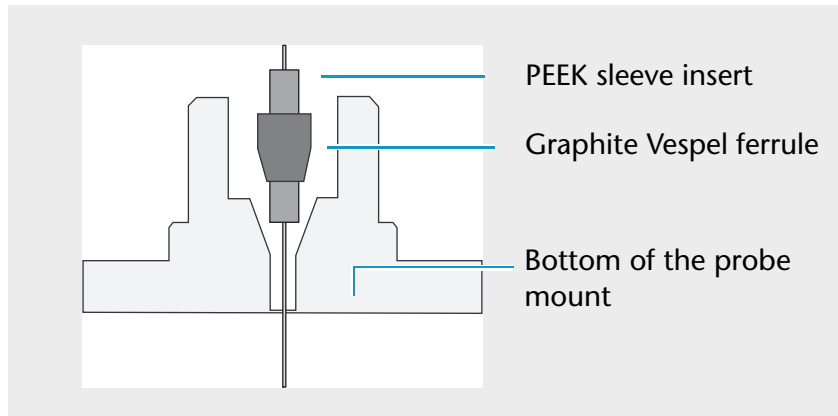
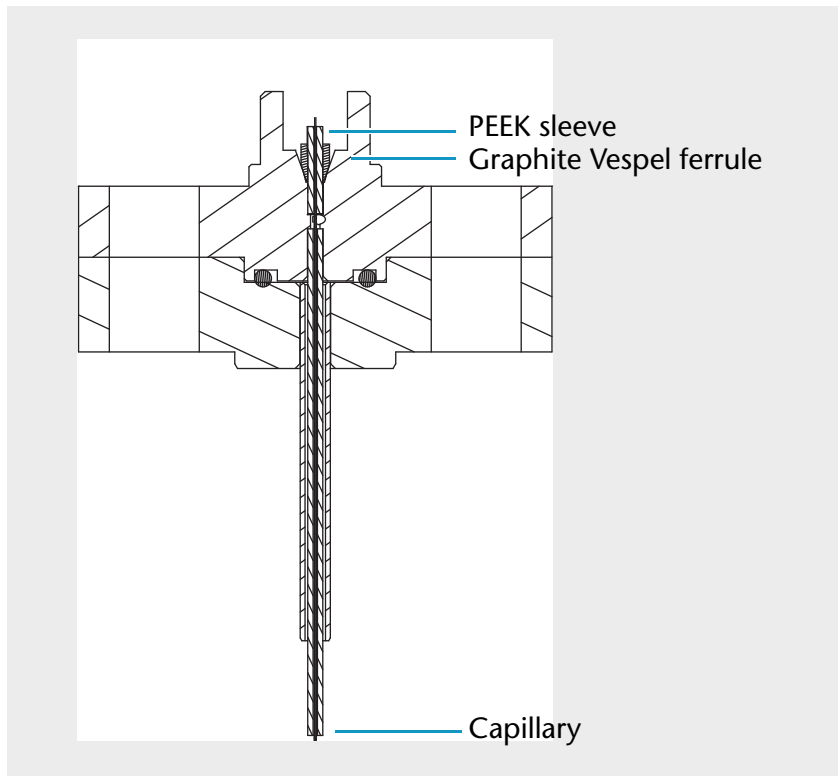

Fig. 49 Inserting the capillary, PEEK sleeve, and graphite ferrule into the APCI probe
Fig. 50 APCI capillary, PEEK sleeve, and graphite ferrule inserted into probe
2. Using tweezers, insert the APCI capillary, PEEK tube insert, and graphite ferrule assembly into the probe. See Figure 49 and Figure 50.